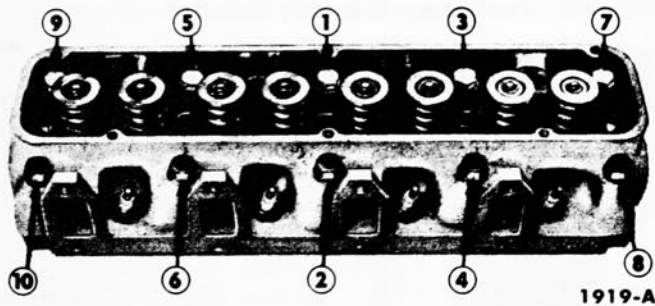

FIG. 47—Cylinder Head Bolt Tightening Sequence
3. The cylinder head bolt tightening procedure is performed in three progressive steps. Tighten the bolts in the sequence shown in Fig. 47. First, tighten all the bolts to 75 foot-pounds torque, then to 85 foot-pounds torque, finally tighten them to 95-105 foot-pounds torque. After the cylinder head bolts have been tightened to specification, the bolts should not be disturbed.